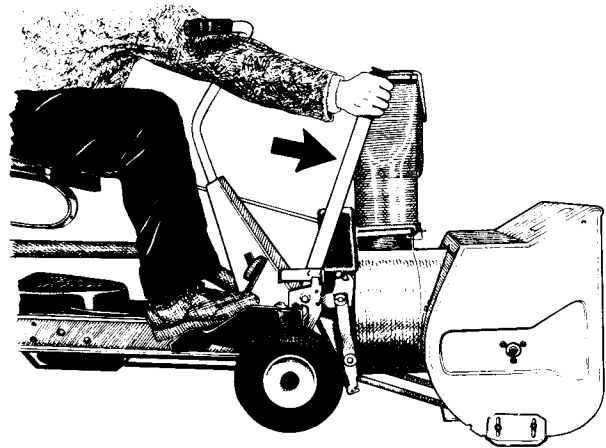

FIGURE 3 - LATCH FORWARD FOR HEAVY SNOW
5. Before proceeding into heavy snow, push the lift lever all the way forward until the latches catch over the forward edges of the side braces. This shifts the blower unit out of float position into solid contact with the surface. Use this position only in extra heavy snow conditions. To shift back to float position in normal conditions, simply depress the rear of the latch lever on the right (Figures 3 and 4).